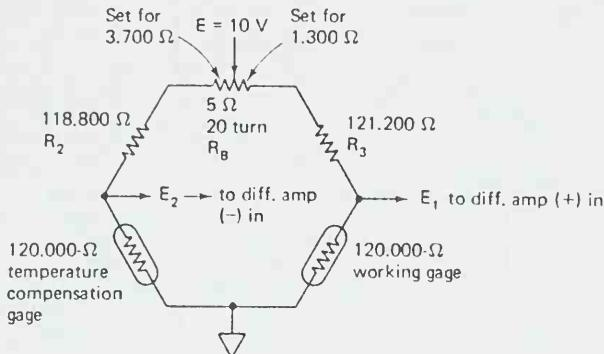

FIGURE 8-16 Balance pot R_B is adjusted in an attempt to make $E_1 - E_2 = 0 \text{ V}$.
Suppose that you had a working gage and temperature-compensation gage in Fig. 8-16 that are equal to within 1 mΩ. To complete the bridge, you install two 1%, 120-Ω resistors. One is high by 1% at 121.200 Ω and one is low by 1% at 118.800 Ω. They must be equalized to balance the bridge. To do so, a 5-Ω 20-turn balancing pot is installed, as shown in Fig. 8-16. Theoretically, the pot should be set as shown to equalize resistances in the top branches of the bridge at 122.500 Ω.
Further assume that an instrumentation amplifier with a gain of 1000 is connected to the bridge of Fig. 8-16. From Example 8-11, the *output* of the instrumentation amplifier (IA) will be about 22 mV per milliohm of unbalance. This means that the 5-Ω pot must be adjusted to within 1 mΩ of the values shown, so that $E_1 = E_2$ and consequently, V_o of the IA will equal 0 V ± 22 mV.